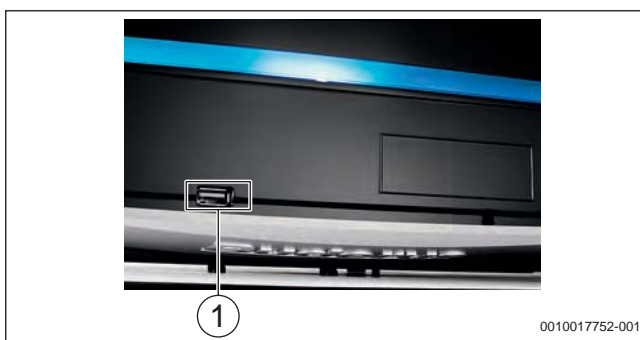

Fig. 78 USB interface: use with USB stick
- Insert commercially available USB stick directly into the USB interface on the control unit (→ Fig. 78)